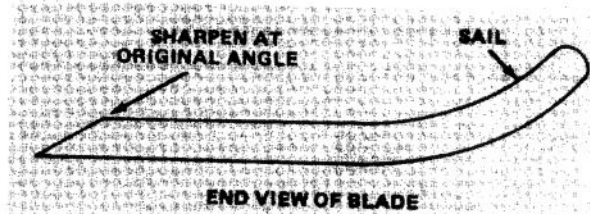
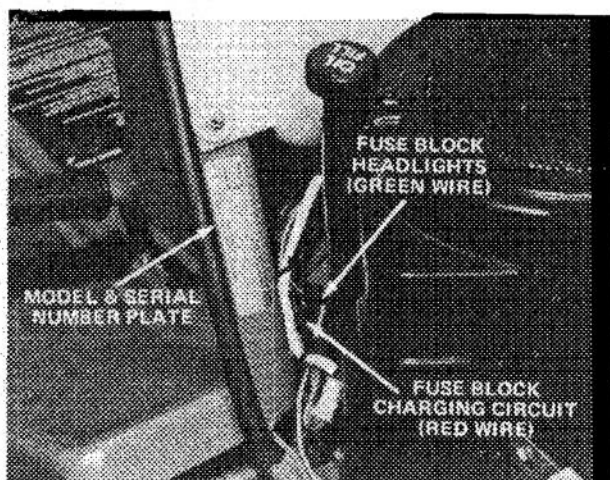

Figure 36
Figure 47
12. Using a file, sharpen cutting edge at both ends of the blade (Fig. 36).
An AGC 7-1/2 Amp Fuse (Fig. 47) is incorporated in the charging circuit as a protective device against alternator damage caused by possible "short-outs" in the wiring harness. If the battery lacks power to crank engine, raise the hood, separate the fuse block (Fig. 36) and check the fuse. If fuse is defective, replace it. If replacement fuse also fails, have the electrical system checked by an Authorized TORO Service Dealer. Also have electrical system checked if the fuse is not defective but the battery lacks power.
Power for the headlights on the 11-42 Rider is provided by AC current from the engine alternator; therefore, the headlights will not function unless the engine is operating. An AGC 7-1/2 Amp Fuse (Fig. 47) is incorporated in the headlight circuit as a protective device against alternator damage caused by possible "short-outs" in the wiring harness. If the headlights are inoperative, raise hood, separate fuse block and check fuse. If fuse is defective, check wiring for "short-outs". If none can be ascertained, contact your Authorized TORO Service Dealer for assistance.
The TORO Front Engine Rider has two identification numbers: a model number and a serial number. The two numbers are stamped on a decal that is located under the hood to the right of steering shaft. See page 25, Fig. 47.